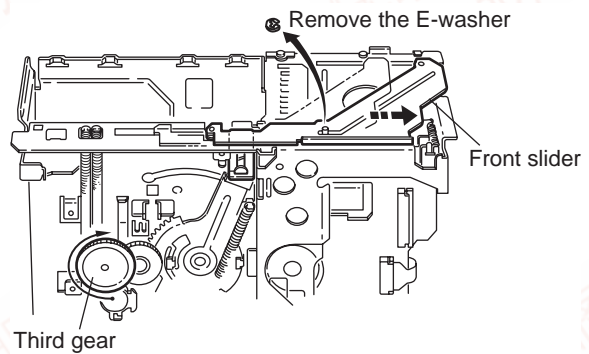

Fig.5
3.1.2 Removing the top cover (See Fig.5 to 9)
3.2.5 Front slider (See Fig.5)